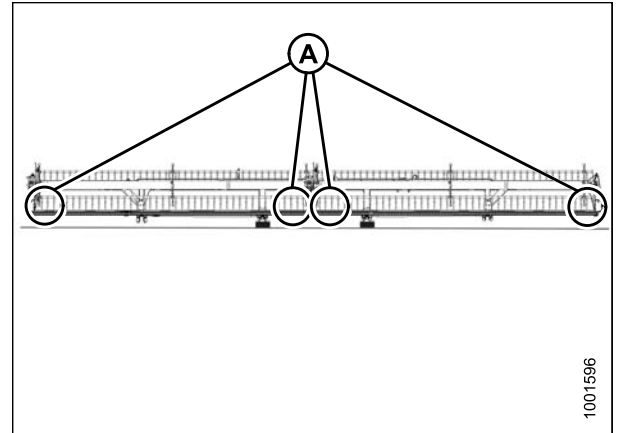

Figure 5.37: Double Reel Measurement Locations
- Figure 5.37, page 131 – double reel